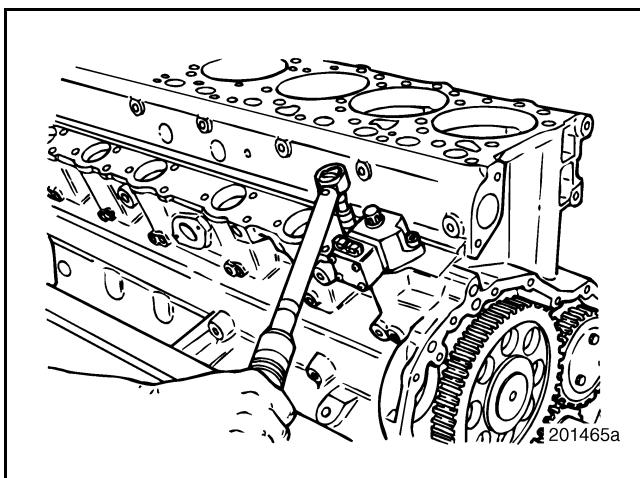

Figure 398 — Tightening Unit Pump Fasteners
3. Install **new** mounting screws. Lubricate the threads and underside of each screw with clean engine oil prior to installation. Tighten the screws evenly to draw the EUP into the cylinder block (Figure 398). Final tighten the screws to the specified torque, 60 lb-ft (81 N•m).